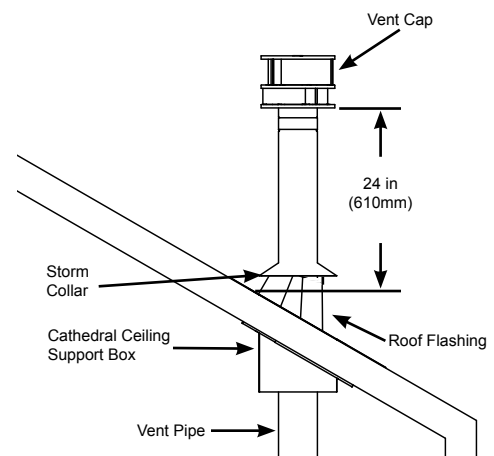

FIGURE 22
9. Connect the necessary amount of pipe sections to reach the UBB at a point where the Vent Cap will extend a minimum of 24 inch (61 cm) above the roof. See Figure 22.
12. Slip the Flashing over the pipe section(s) protruding through the roof. Secure the base to the roof with roofing nails. Insure that the roofing material overlaps the top edge of the Flashing. See Figure 22.